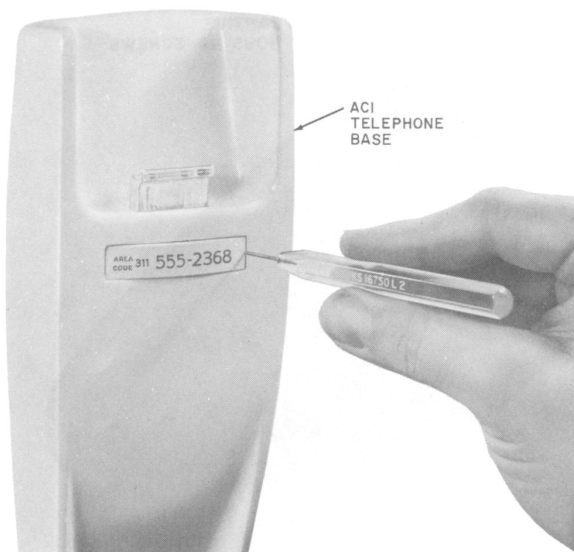

Fig. 5—Removing Number Plate Retainer
- Space provided on bases for number card and associated number card retainer (Fig. 5)